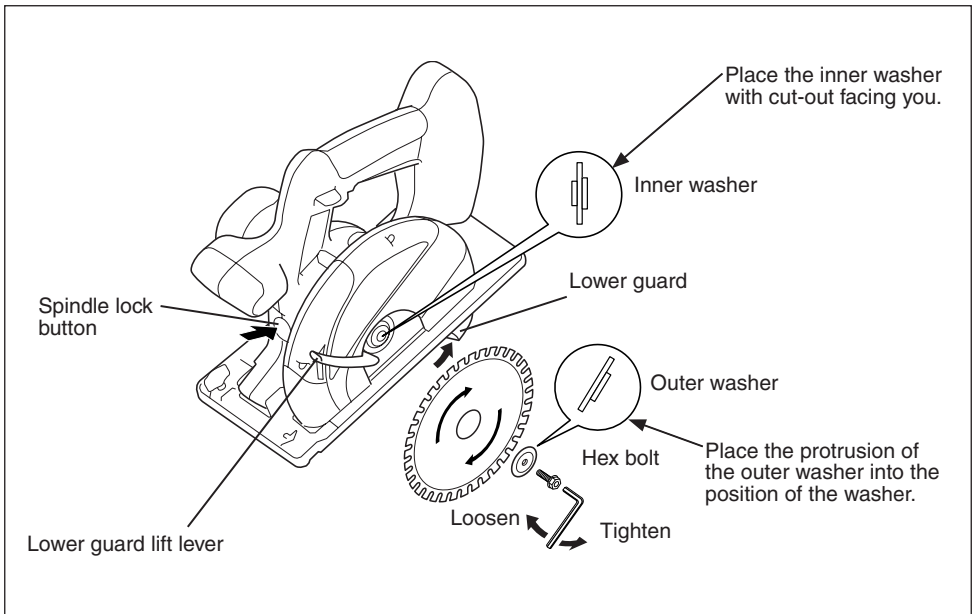

Fig.12
4. Install the blade as illustrated. (See Fig. 12)